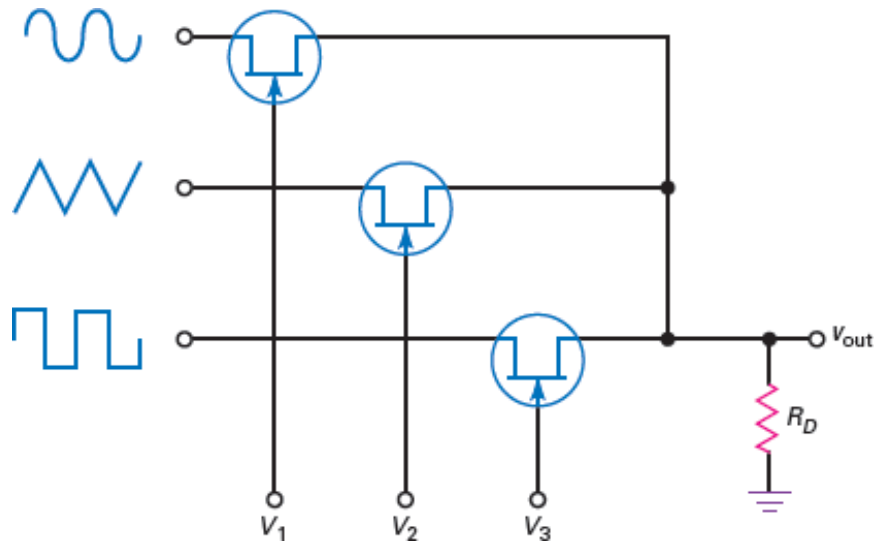

Figure-19 Multiplexer
- Multiplex means "many into one." Figure-19 shows an analog multiplexer, a circuit that steers one or more of the input signals to the output line.